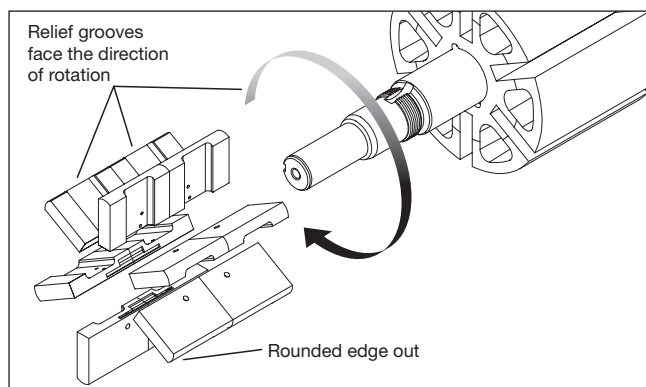

Figure 10: PT30 model shown above
7. Place vanes into the upper rotor-shaft slots. Ensure the curved tip of each vane faces radially outward and all in the same direction of rotation (see Figure 10).
3. Position a new vane so the rounded edge faces out from the pump and the relief grooves face towards the direction of rotation (see Figure 10).